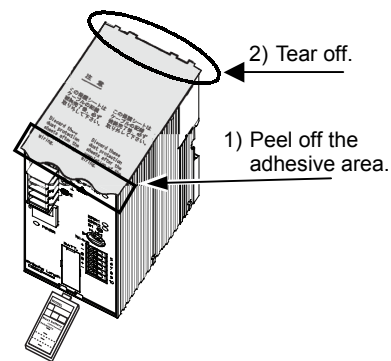

Figure 10. Protective sheet
- \* Install wiring properly so as not to hide the underlined parts shown in Fig. 10.
- 8) Peel off the protective sheet on the top surface of the product before turning ON the power. (See Figs. 10 and 12.)